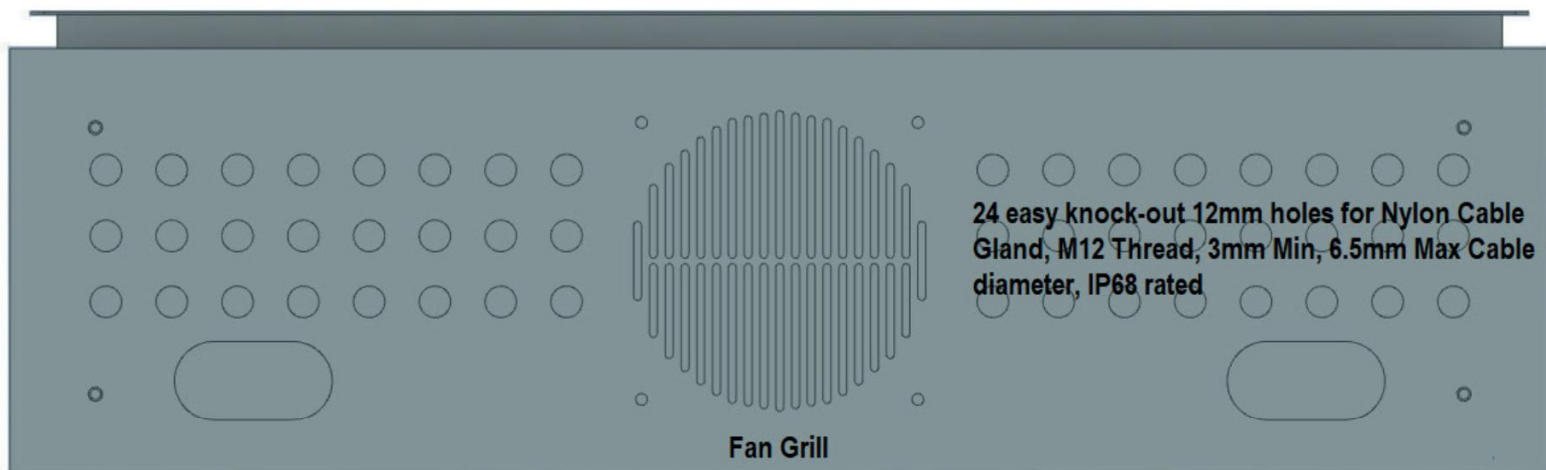

Fig. 3a
- Gently knock out 12mm holes in dry compartment (See fig.3a)